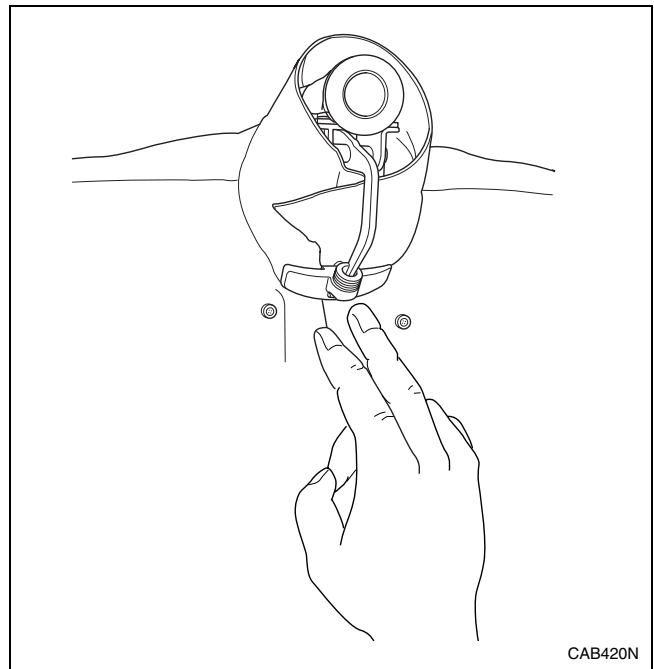

Figure 8
5. Hold neck band ends up in place with two fingers placed just below button and buttonhole of neck band. Release collar clamp foot pedal to close clamp against shirt collar. Buttonhole must be under clamp so that button strip will not distort it when pulled. Refer to *Figure 8*.